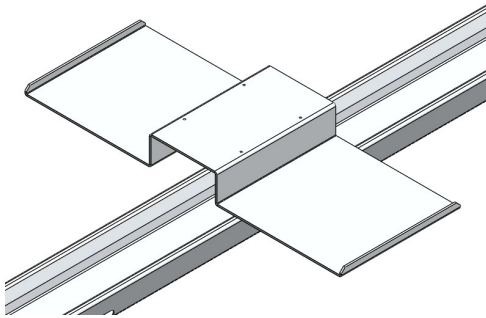

Fig. 14 – Install Tray ‘top-down’ on Rail
- 2 Install Ballast Trays under PV panels, top-down, onto rails (see example illustration, Figure 14). Refer to the *Shading Diagram*, provided separately, for configuration requirements. Install 4 TEK screws through tray and rail.